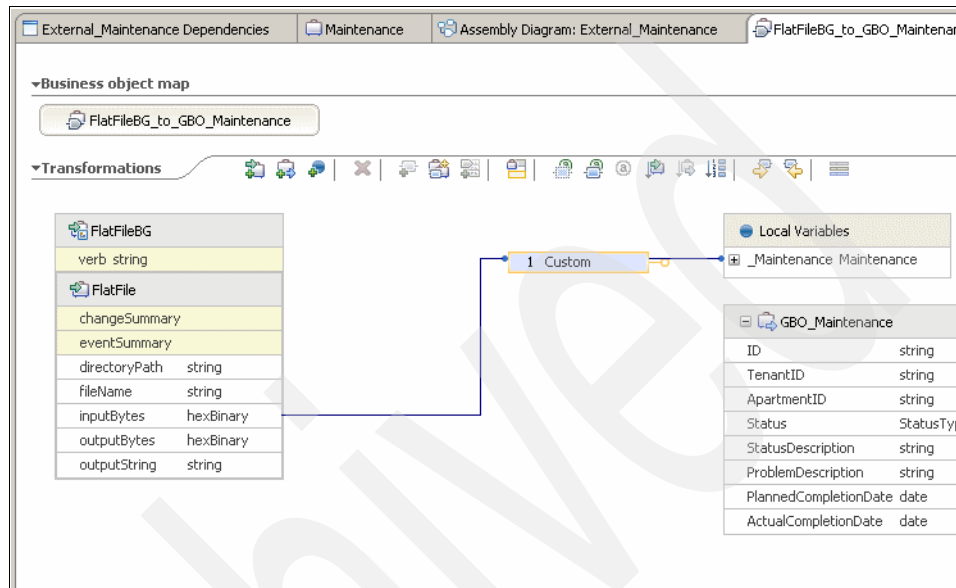

Figure 3-18 Select custom transformation
17. Create a custom mapping between the inputBytes of FlatFileBG and the \_Maintenance object. This custom mapping will deserialize the XML response message to a business object by using the BOXMLSerializer API provided by the WebSphere Process Server (Figure 3-18).